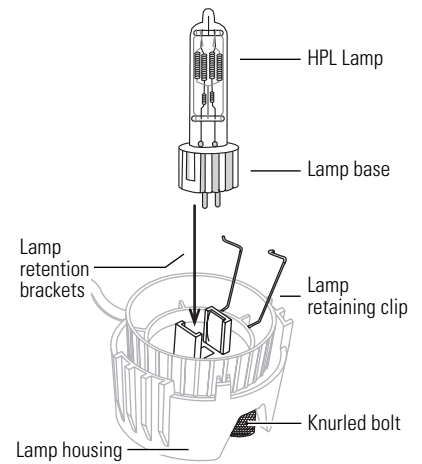

Figure 2
4. Line up the flat sides of the lamp base with the retention brackets on either side of the socket as show in **Figure 2**.